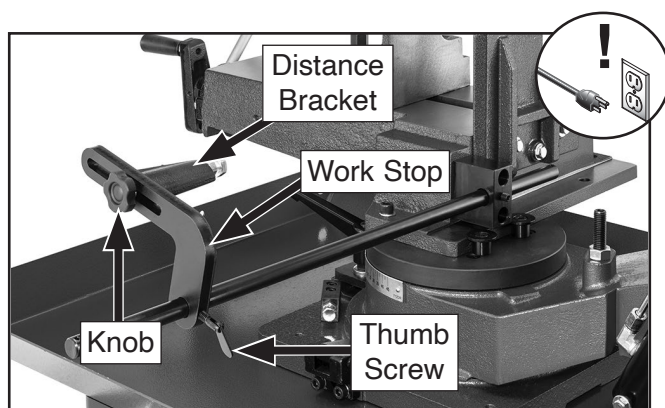

Figure 58. Location of work stop adjustment components.
4. Loosen thumb screw on work stop, slide work stop on rod to just touch workpiece edge, and tighten thumb screw to secure (see **Figure 58**).